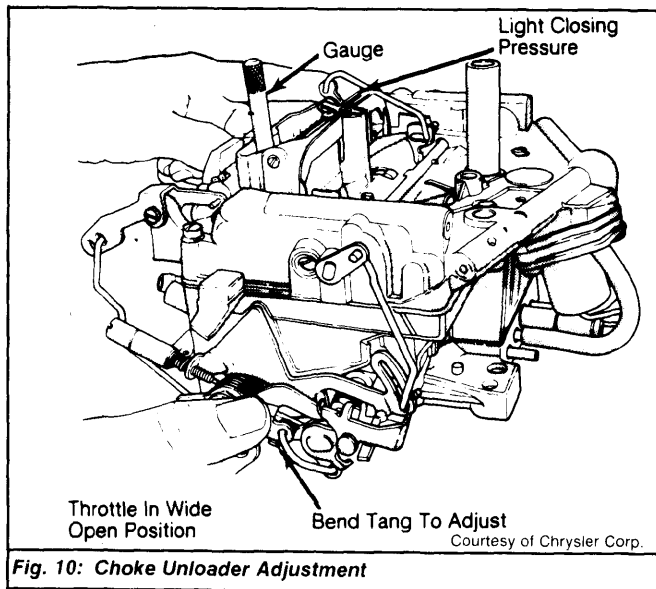

Fig. 10: Choke Unloader Adjustment
1) Open throttle valves wide open. Apply light closing pressure on fast idle cam lever to close choke valve. See Fig. 10.